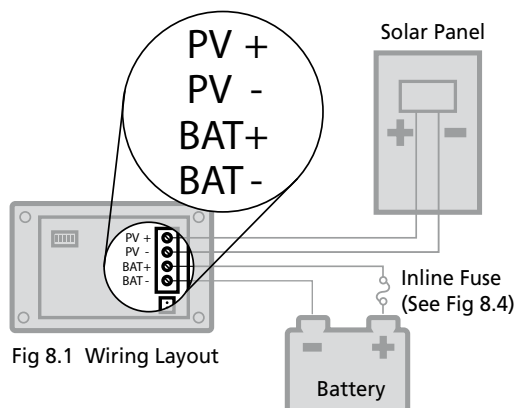

Fig 8.1 Wiring Layout
Please refer to wiring layout shown in Fig. 8.1. **NOTE: Wiring and Fuse sizes recommended below are based on use of a single 100/150W solar panel with maximum current handling capacity of 10A.**
A pair of 20 foot, AWG#12, pre-assembled cables with Multi-Contact (MC4) Male and Female Connectors is provided to connect the solar panel to the Charge Controller. After making sure that sufficient length is available to wire the solar panel to the Charge Controller, any excess wire may be used to wire the battery to the Charge Controller. Please refer to wiring layout at Fig. 8.1 below.
- Make sure the Positive terminal (marked '+') of the battery is connected to the Positive terminal (marked "BAT +") of the Charge Controller and the Negative terminal (marked '-') of the battery is connected to the Negative terminal (marked "BAT -") of the Charge Controller SCC-30AB (Fig. 8.1). If you are not sure, use a DC voltmeter to determine the polarity of the battery bank. **Reverse polarity connection may damage the Charge Controller and the resulting damage will not be covered by warranty.**
- Use Inline ATC style Fuse Holder of 10A ATC-10 fuse on the battery end of the Positive cable (Fig 8.1; NOT SUPPLIED). The Fuse Holder comes with 4", AWG#12 pigtails. Splice one pigtail to the Positive wire end and use the other pigtail for battery connection.
12. Insert the terminals into the appropriate terminal on the Charge Controller (Fig 8.1): Positive PV lead is connected to the Positive terminal (marked "PV +") of the Charge Controller and the Negative PV lead is connected to the Negative terminal (marked "PV -") of the Charge Controller. ***Reverse polarity connection may damage the Charge Controller and the resulting damage will not be covered by warranty.***